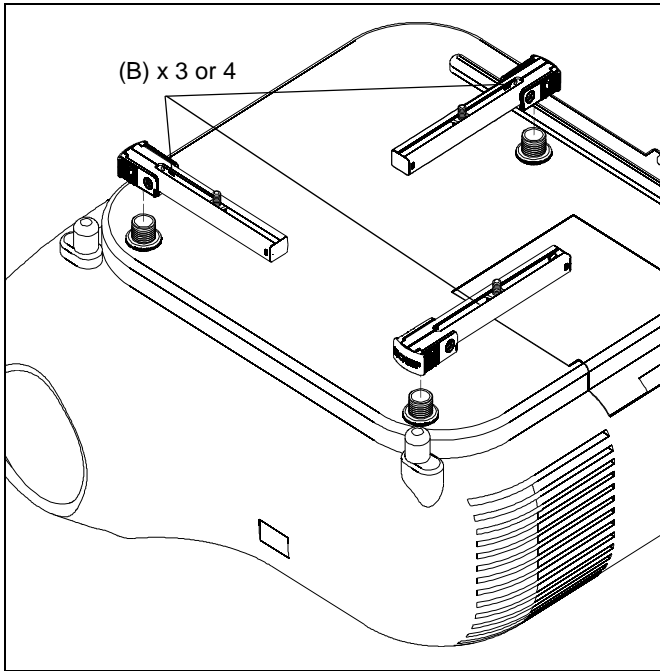

Figure 4
- Place SLBU/SLMU legs (B) over screw adapters and height-adjustment nuts. (See Figure 4)